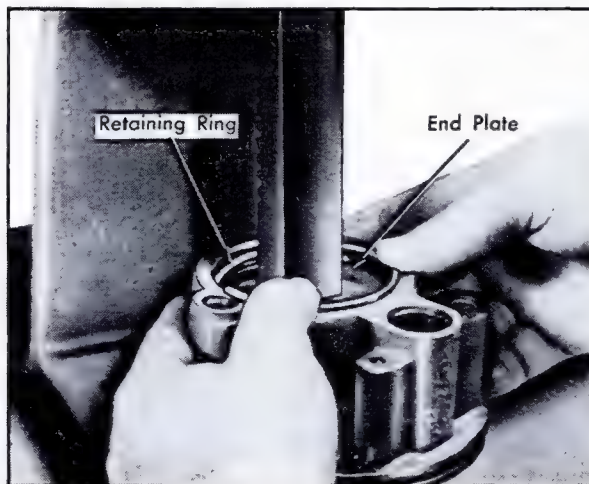

Fig. 9-18 Installing End Plate Retaining Ring
15. Place pump housing in arbor press, depress end plate below retaining ring groove, and install end plate retaining ring, Fig. 9-18. Make certain that ring is completely seated in groove of housing.